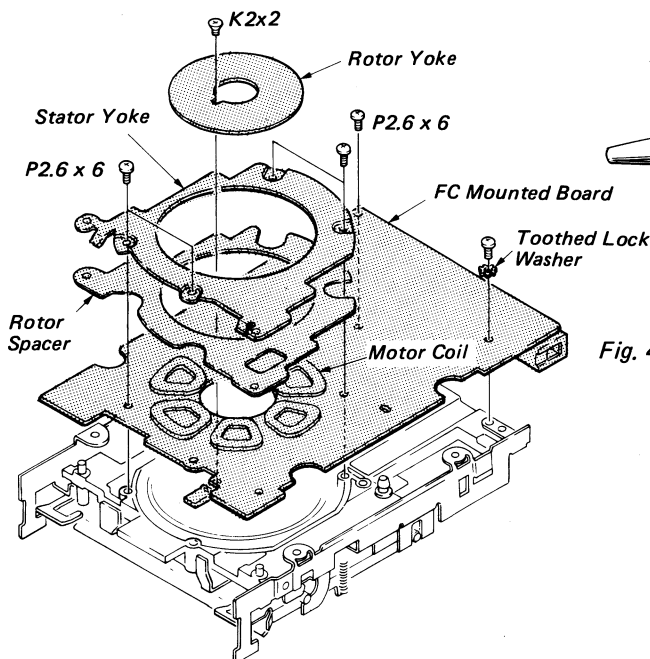

Fig. 4-3 FC Mounted Board Replacement
- Remove the screw (K2x2) securing the Rotor Yoke from rotor boss and then remove the Rotor Yoke. (Refer to Fig. 4-3)
- Remove the four screws (P2.6x6) securing the Stator Yoke and then remove the Stator Yoke and Rotor Spacer. (Refer to Fig. 4-3)
- Remove the two screws (P2.6x6) and a toothed lock washer securing the Mounted Board from the chassis ass'y and then remove the Mounted Board. (Refer to Fig. 4-3)
- Install the Stator Yoke and Rotor Spacer with four screws (P2.6x6). (Refer to Fig. 4-3)
- Be careful not to damage to six disk motor coils for disk motor, while installing the Rotor Yoke with a screw (K2x2). (Refer to Fig. 4-3)